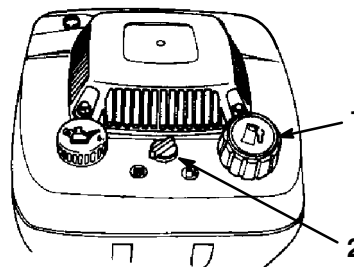

Figure 7
1. Clean around the fuel tank cap (Fig. 7).
2. Open the fuel valve (Fig. 7).